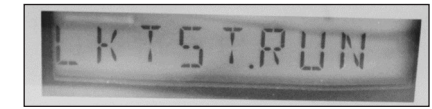

Figure 11: Leak Test Run (LKTST.RUN) LCD screen
2. Hold the magnet on the black dot for five (5) seconds until **LKTST.RUN** displays (Figure 11), and then remove the magnet. The leak test process begins.
3. If you want to repeat the leak test, first clear the screen by displaying the leak test result and holding the magnet on the black dot next to the display screen. The screen returns to the Leak Test run screen (**LKTST.RUN**) shown in Figure 11.